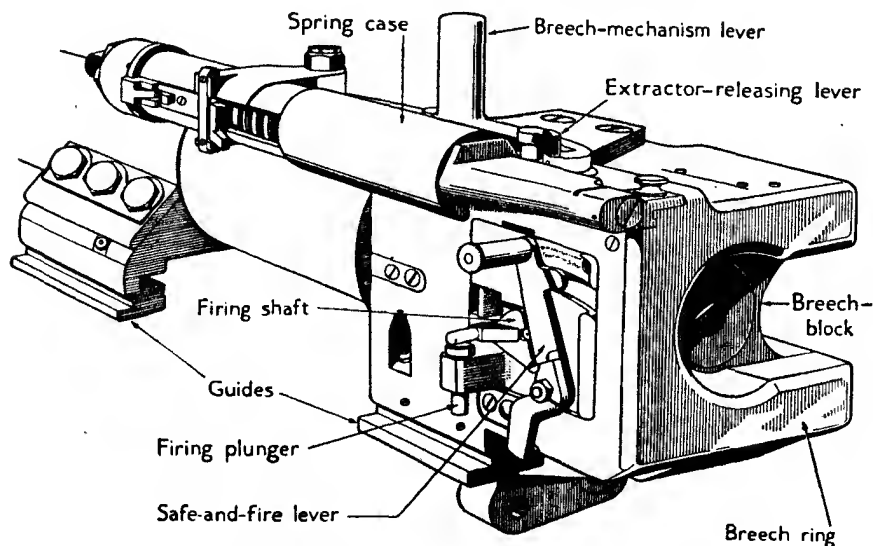

Figure 66.—Breech of 5-cm Pak.
(1) *Safety*.—There are three mechanical arrangements which operate as safety devices: (1) unless the breechblock is properly closed, the safety plunger will not enter its recess and the gun cannot be fired; (2) the safety plunger must be in its recess in the lower face of the breech ring before the firing shaft can be rotated; (3) the breech cannot be opened if the striker is not cocked, because the firing shaft is engaged with the safety plunger, which is in its recess.
(2) *To load and fire*.—To open the breech by hand, recock the firing mechanism by turning the safe-and-fire lever to *sicher* ("safe") (fig. 66) and pushing it for-
(1) *Stripping*.—(a) *To disassemble the breech mechanism*.—Remove the securing pin from the spring case of the breech-mechanism lever (fig. 66), swing the case to the left and front, and remove the castellated nut and case complete.